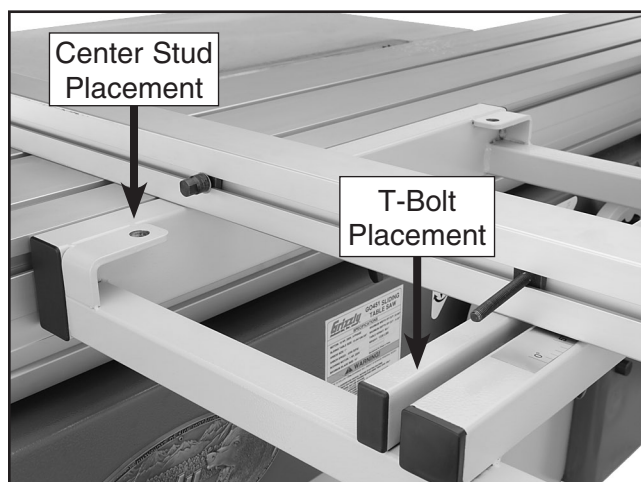

Figure 37. Crosscut fence placement.
4. Insert the center stud and the T-bolt in the places indicated in **Figure 37**.